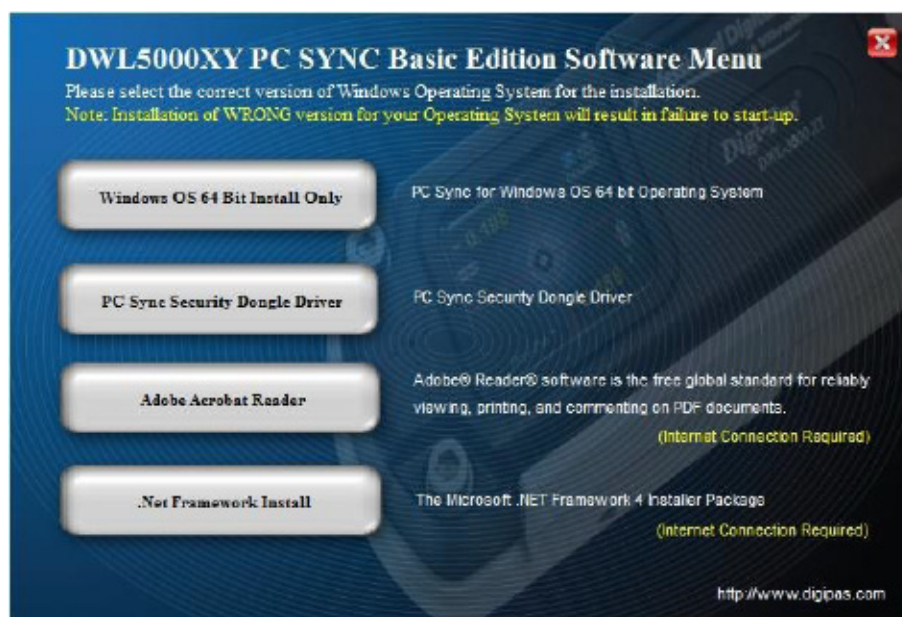

Figure 21. Interface of the software installation page
1. DWL5000XY, DWL5500XY or DWL5800XY PC Sync Software Basic Edition CD comes together with the tilt sensor module package. Insert the PC Sync Software CD to the PC, auto-run screen appears as in Figure 21. Click on "Windows OS 64 Bit Install Only" button to start the installation. Alternatively, DWL5000XY or DWL5500XY PC Sync Software Basic Edition can be downloaded from <https://www.digipas.com/support/firmware.php>.